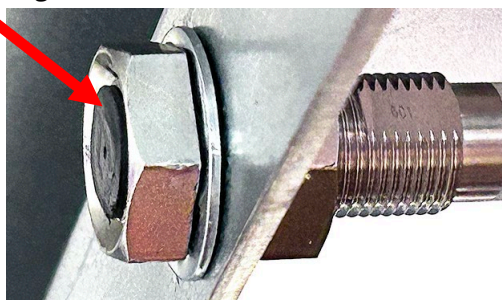

Figure 5
6. Adjust the proximity sensor so that the black head of the sensor is slightly recessed into the nut, to prevent contact with the filter pan, when it is fully inserted into the fryer (see Figure 5).